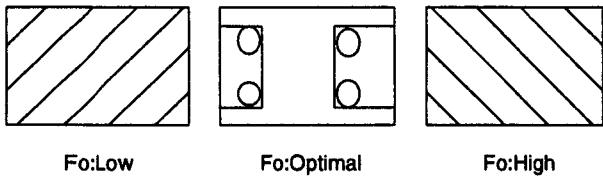

Fig.5-2
5. Adjust **[50 H-FREQ]** so that the slanting lines on the screen will be vertical. (Fig.5-2)
7. Adjust **[50 H-FREQ]** so that the slanting lines on the screen will be vertical. (Fig.5-2)